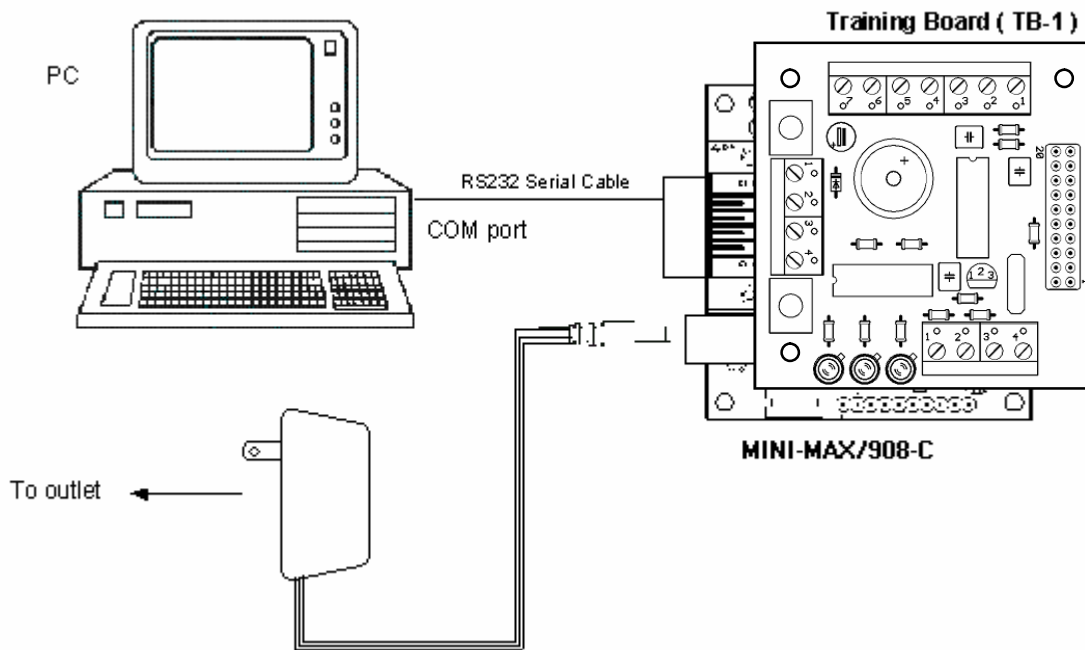

Figure 1
3. Connect the 6808 Training Kit to an available serial port on the PC using the supplied serial cable as shown in Figure 1.